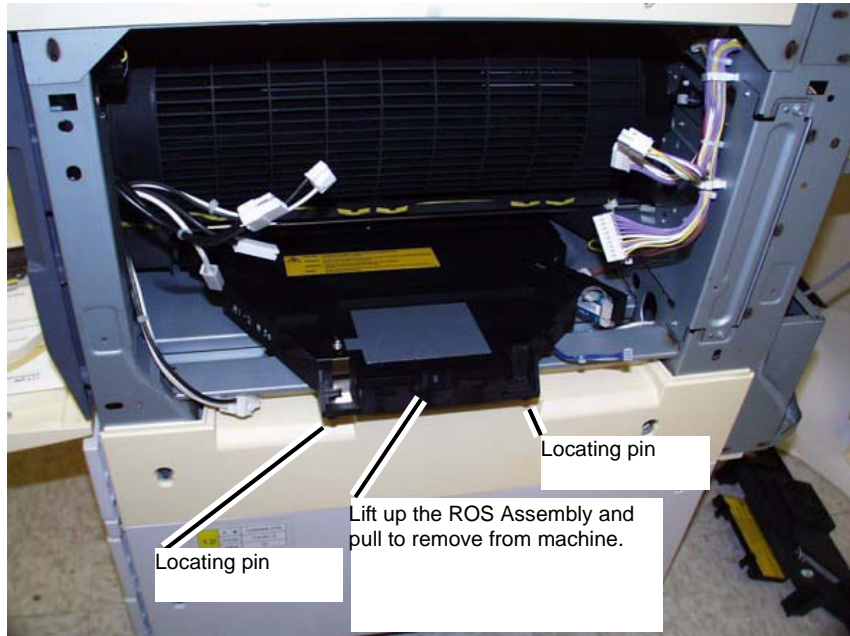

Figure 3 Removing the ROS Assembly
6. Removing the ROS Assembly. (Figure 3)
1. Installing the ROS Assembly. (Figure 3)
- b. Be sure that the locating pins (2) on the ROS is engaged into the machine frame.
- c. Install the screws (2).
- d. Connect the connectors (3).